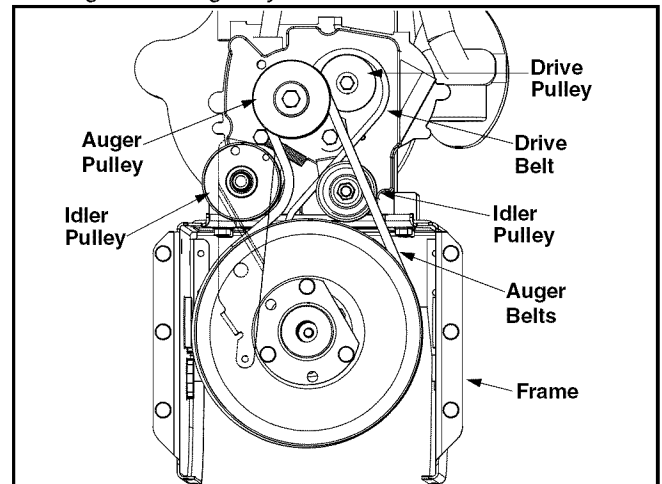

Figure 16
- Roll the front and rear auger belts off the engine pulley. See Figure 16.
- Pull the idler pulley up and lift the belt off the engine pulley and friction wheel disc. See Figure 16.